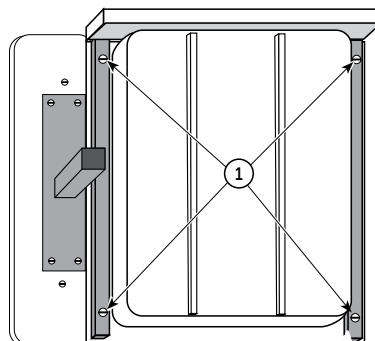

FIGURE 3
4. Using a Phillips screwdriver, remove the four wood screws (1, Fig. 3) from the Formica top.